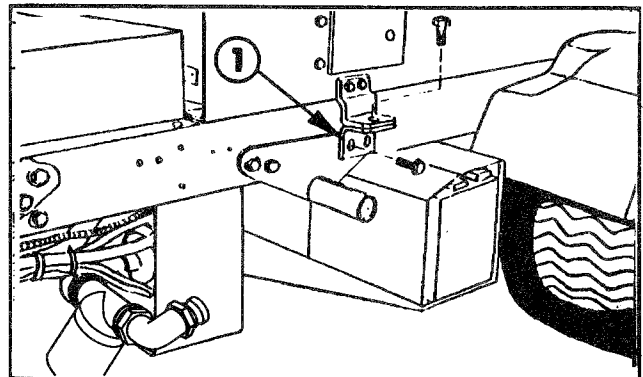
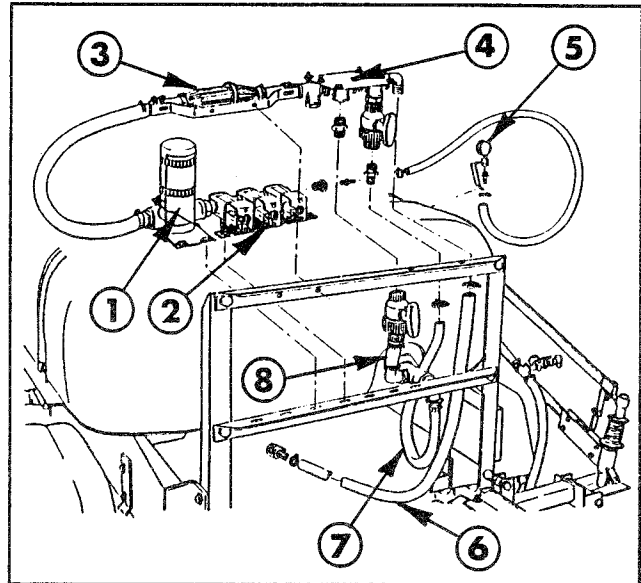

FIG. 11
FIG. 16
39. Locate and remove the (2) 1/2" bolts on each side of the vehicle frame as shown and install the attachment mounting bracket using the bolts earlier removed. Re-tighten the nuts and bolts securely (FIG. 11).
motorized control valve and the 1" hose barb in the inlet port. Connect the motorized control valve and the solenoid assembly by screwing the two together. See FIG. 16.
57. Apply thread sealer and install three hose barbs into the bottom of the solenoid assembly. Install 3/4" x 1/4" reducer bushing and 1/4" x 3/8" hose barb in the end of solenoid assembly. See FIG. 16.
58. Loosely attach the control valve bracket to the lower cross support with (2) 5/16" x 1" hex hd. cap screws, washers, and nuts.
59. Slide the solenoid mounting strap into position and mount the complete control valve and solenoid assembly to the cross support as shown in FIG. 16. Use (4) 5/16" x 1" hex hd. cap screws with (10) washers and (4) nuts. Place four washers on top of the mounting strap, two at each end in between the strap and the cross support, and four under the cross support.
61. Connect the boom feeder hoses to the barbs with hose clamps. The (2) 3/4" x 50" hoses are to be attached to the hose barbs in the left and right solenoids. The 3/4" x 36" hose is to be attached to the barb in the center solenoid.
64. Assemble the pressure gauge and the 3/8" hose barb to the gauge bracket. Remove the protective cap and mount the bracket to the carriage bolt in the rear tank band, using a 5/16" hex nut and lock washer (FIG. 16).
65. Connect the pressure gauge to the solenoid assembly with the 3/8" x 36" hose. Secure the hose with hose clamps (FIG. 16).
66. Apply sealer and install the 1" x 1-1/4" hose barb into the end of the tee assembly and a 1" x 3/4" hose barb into the existing ball valve of the tee assembly (FIG. 16).
67. Remove the pipe plug in the bottom of the middle tee. Apply sealer and install a 1" close nipple, 1" ball valve, and a 1" x 1" hose barb (FIG. 16).
68. Mount the tee assembly and bracket to the upper cross support with (2) 5/16" x 1" hex hd. cap screws, flat washers, lockwashers, and nuts (FIG. 16).
70. Mount the flowmeter bracket to the upper crossmember using (2) 5/16" x 1" hex hd. caps screws, flatwashers, lockwashers, and nuts. See FIG. 16.
71. Slide the inlet end of the flowmeter assembly on the 1-1/4" hose barb found in the tee assembly. Secure with a hose clamp. See FIG. 16.
73. Connect one end of the 1" x 30" hose to the motorized control valve and connect the opposite end to the adapter in the flowmeter connector hose. Secure with hose clamps (FIG. 16).
74. Apply sealer and install the 1" 90 degree hose barb in the rear tank tee (FIG. 16).
the vehicle under the tank, connect the other end of hose to the hose barb on the right side of the tee assembly and secure with a hose clamp. See FIG. 16. Secure hose at cable mounting bracket and rear cross member with tie straps.
77. Connect the 3/4" x 28" agitator hose to the first ball valve and connect the other end to the hose barb on the rear of the tank. Secure the hose with hose clamps (FIG. 16).
78. Connect the 1" x 5" connector hose between the ball valve in the center tee and the 90 degree hose barb in the left side of the rear tank tee. See FIG. 16. Secure with hose clamps.
81. Mount the radiator cover to the vehicle frame using the (4) 3/8" x 1" hex hd. cap screws and (4) flat washers. On some models, it may be necessary to use the (2) nuts provided to mount the cover at the rear mounting holes.
83. Secure the tank skid to the vehicle frame by installing the (2) 1/2" bolts, (4) washers, and (2) locknuts through the attachment mounting brackets (FIG. 11). Tighten fasteners securely.